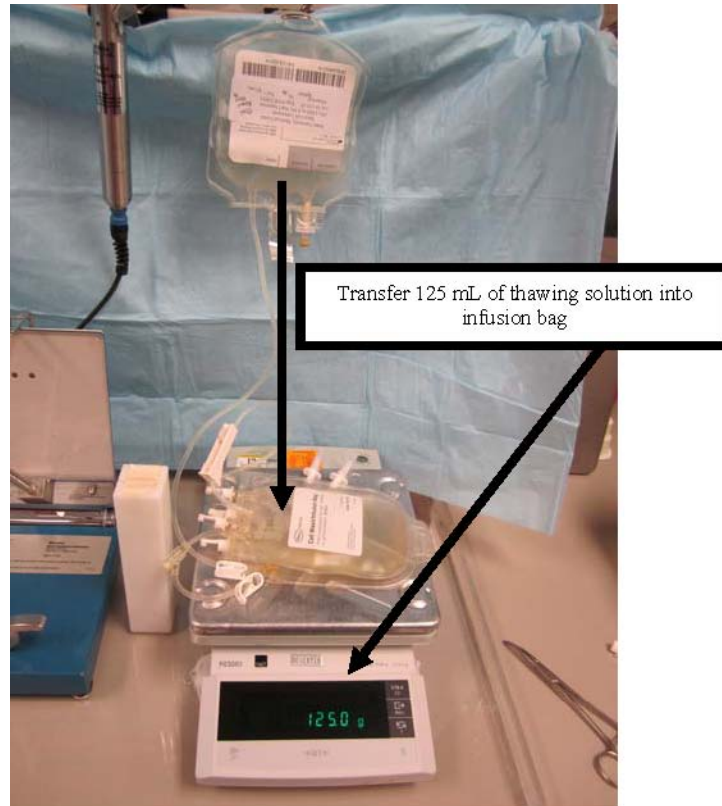

Figure 3
- e. Tare scale and transfer 125 grams (125 mL) of thawing solution from the Dextran 40/Albumin bag into the infusion bag (see Figure 3).